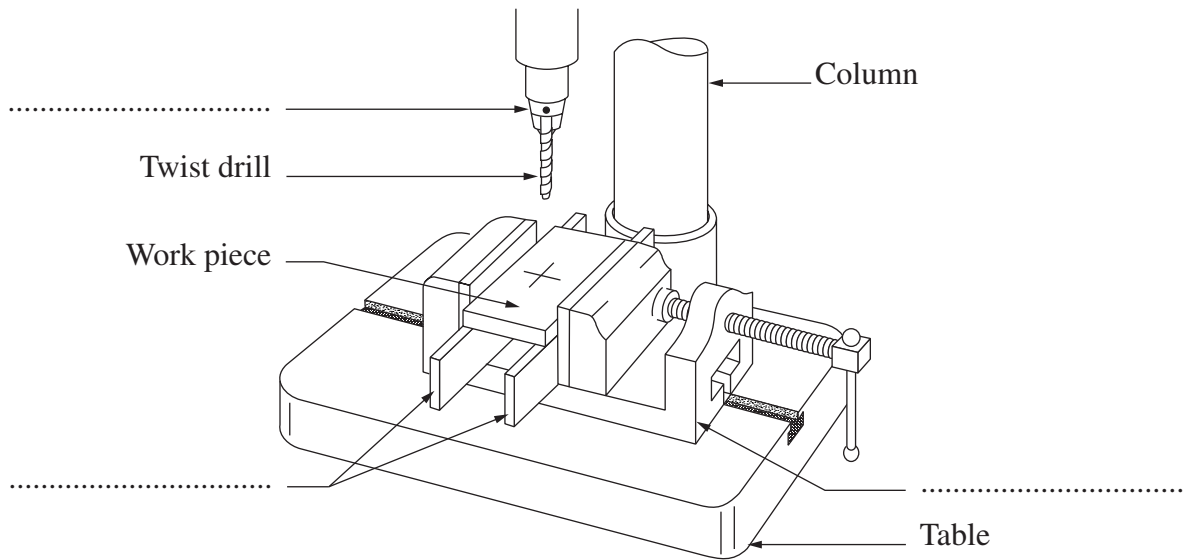

Figure 2
A small item to be drilled in the drill press could be set up as shown in Figure 2.
- (a) Name the components of Figure 2 in the spaces provided. **3**